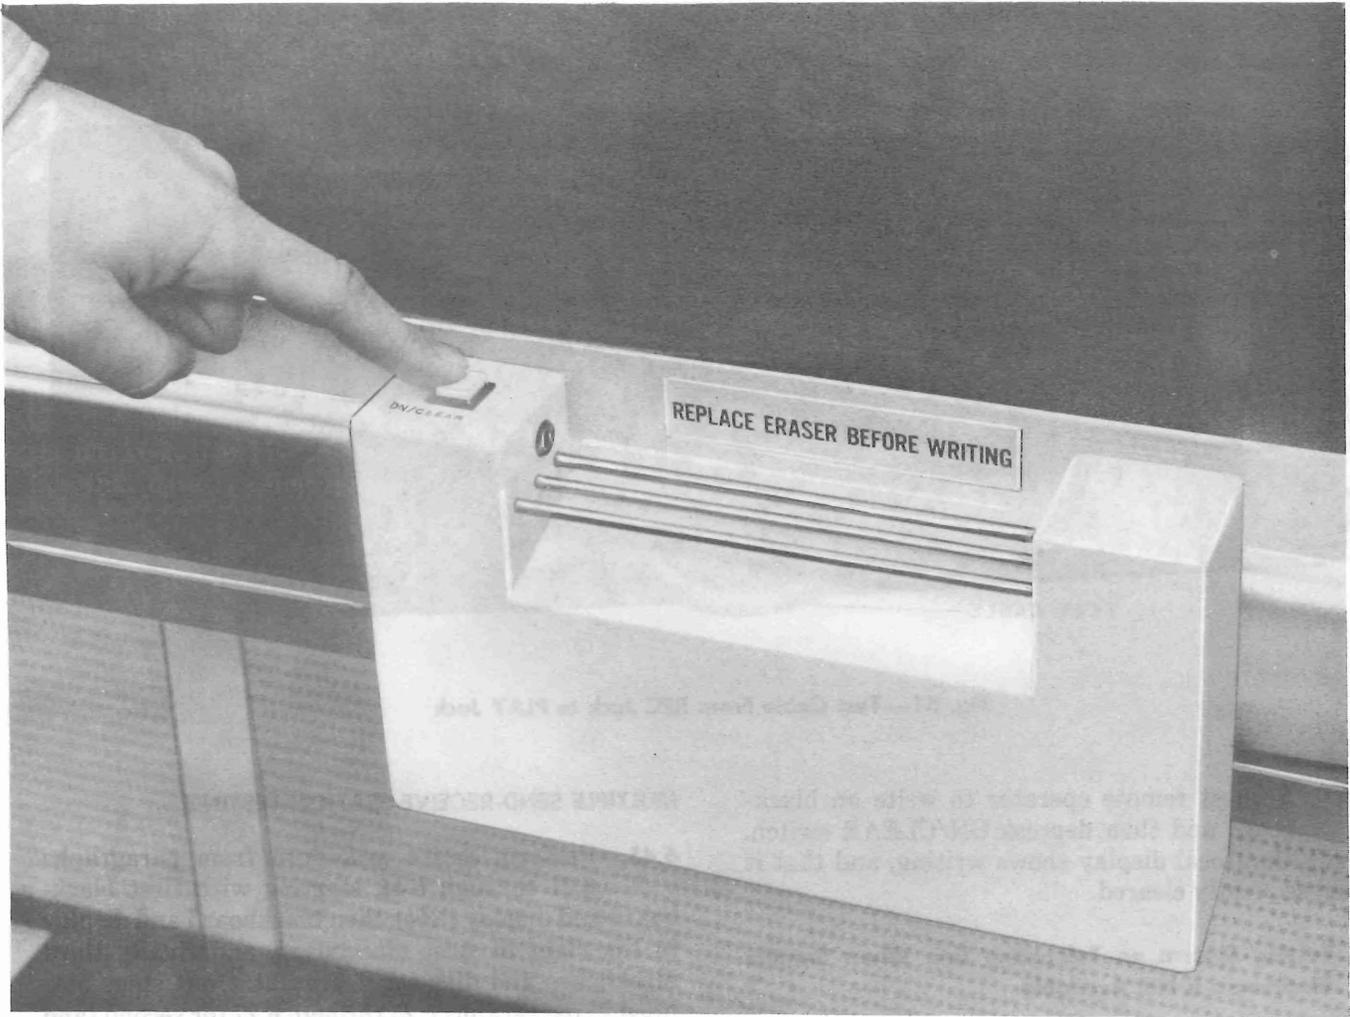

Fig. 52—Depressing ON/CLEAR Switch on Control Unit
6.34 Depress ON/CLEAR switch on control unit (Fig. 52). Verify that video monitor display is cleared.
blackboard. Following this, erase one of the center lines and depress the ON/CLEAR switch (Fig. 52). Verify with the distant party that all of the above writing, erasing, and clearing were received properly.